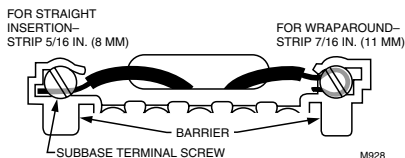

Fig. 4. Wiring connections.
1. Connect the system wires to the subbase. See Fig. 5-12. A letter code for identification is located near each terminal. The terminal barrier permits straight or conventional wraparound wiring connection. See Fig. 4.